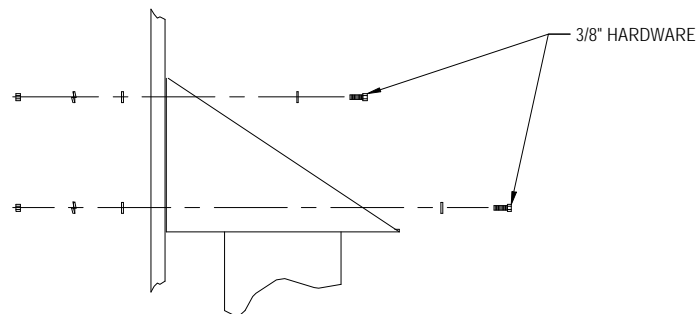

FIGURE 2
3. Attach the Boom Arm to the wall structure using the 3/8" hardware provided (Figure 2).